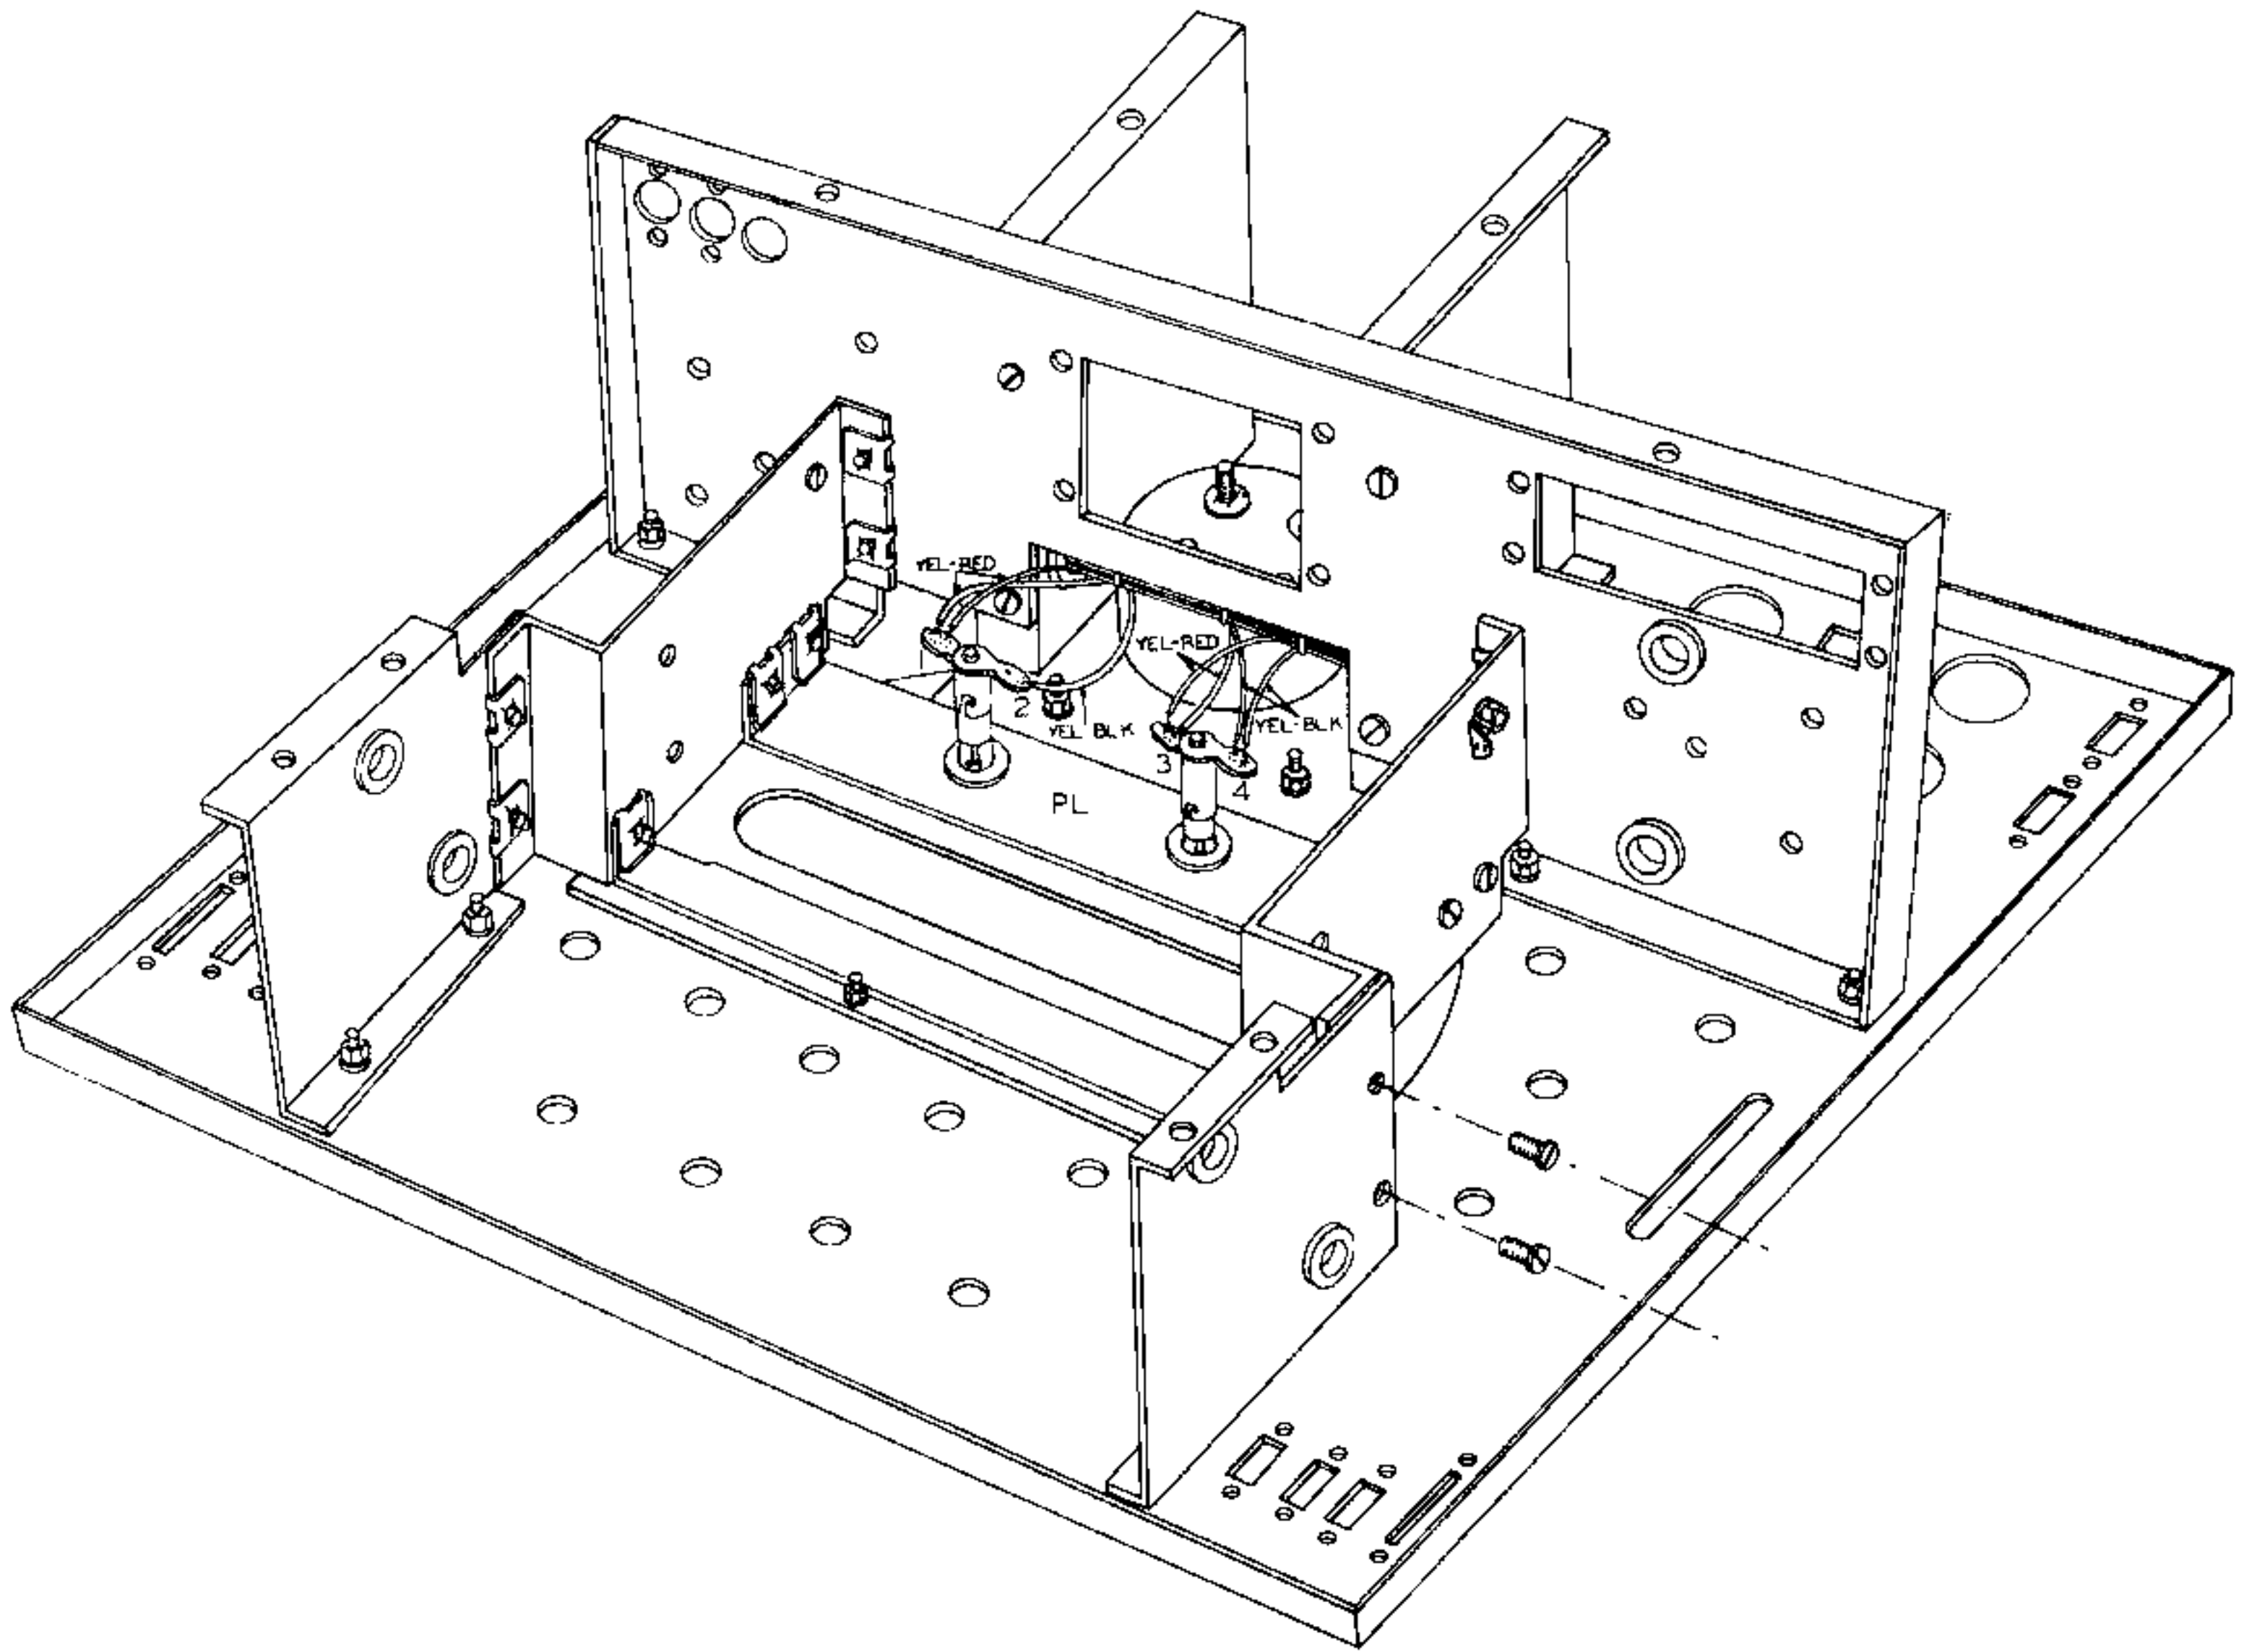

Figure 28
- ( ) Refer to Figure 28 and set the roll chart bracket assembly into place between the subchassis mounting brackets and the chassis. Secure with 6-32 BHMS.
Connect the leads extending from the tube socket to tube socket cable harness to the panel lamp socket terminals, as shown in Figure 28.